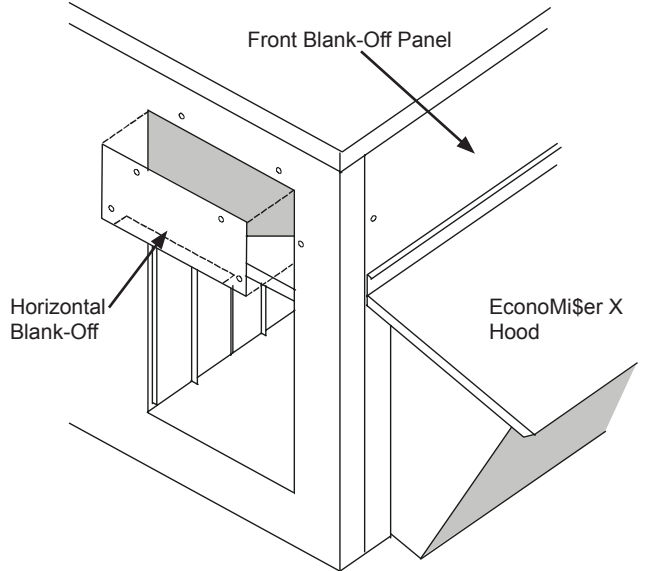

Fig. 12 - Horizontal Return Opening Blank-Off Panel
18. On some units the return damper does not reach to the top of the horizontal return opening in the unit. In this case a horizontal blank-off must be installed. Install the horizontal blank-off at the top of the horizontal return opening. (See Fig. 12.) Screw in place thru pre-punched holes.